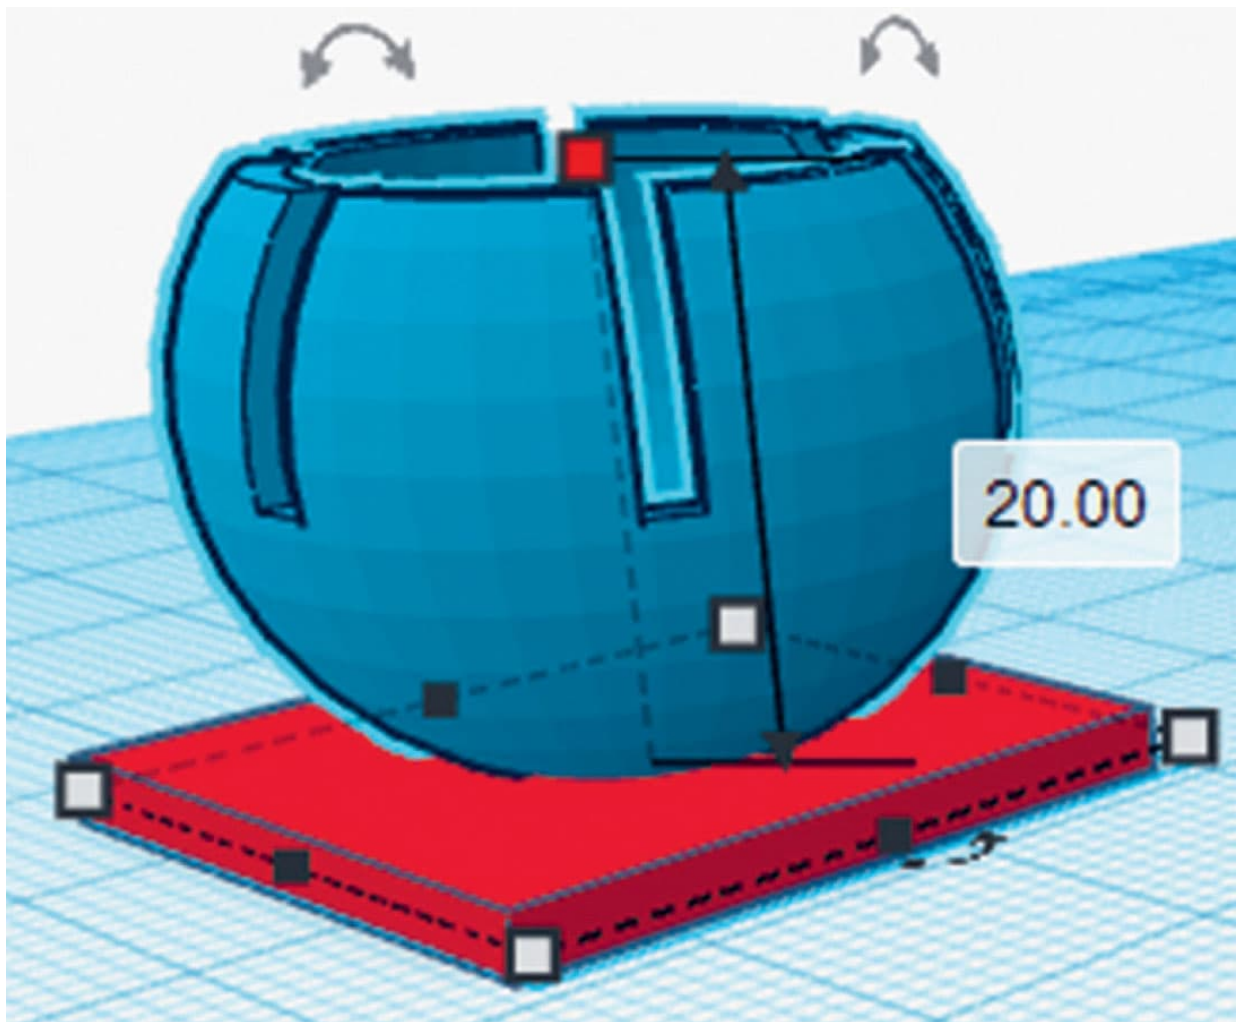

FIG. 4: *The completed socket design with grouped slot holes and spheres resting on a base.*
4. **Group** the slot holes and the hollow socket to complete the socket frame. Move the entire socket up vertically by 1 mm and add a 2 mm base right below it as shown in fig. 4.